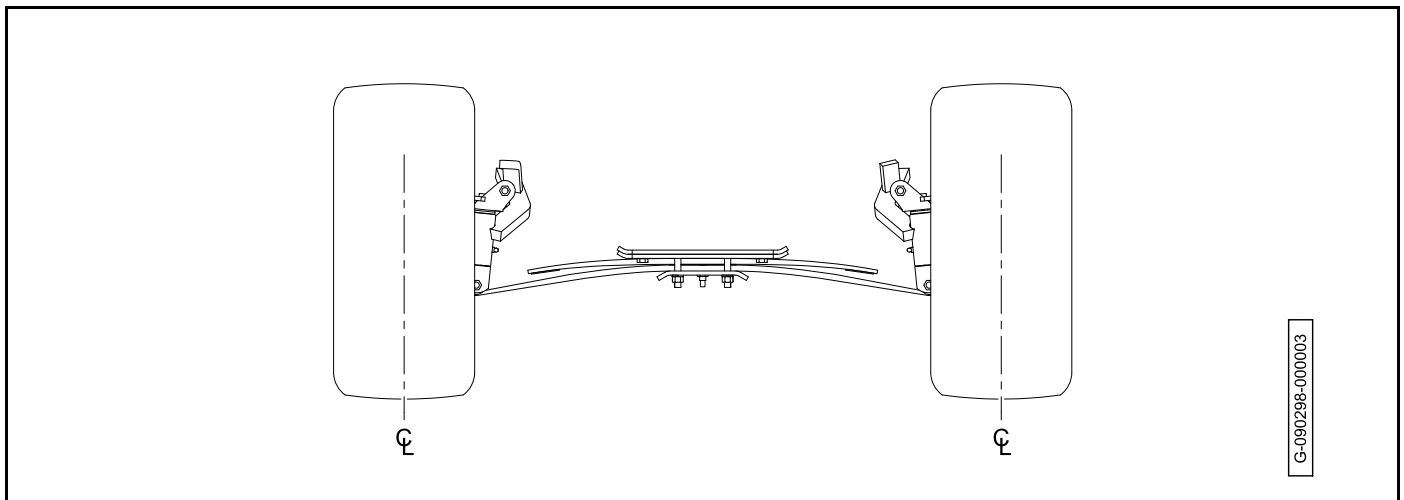

Figure 7-18
- On each front tire, mark (as closely as possible) the center of the tread face that is oriented toward the rear of the vehicle. The marks should be even with the bottom surfaces of the vehicle frame (**Figure 7-18, Page 7-15**).